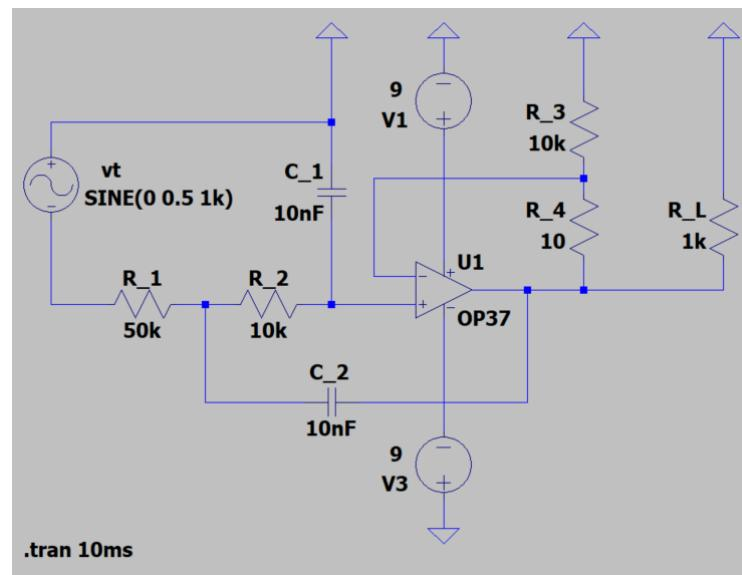

Figure 4: Layout of the Low-pass Sallen-Key circuit
- c. Under the New Schematic Page, Right click > Draft > Component. Build the circuit layout as shown in Fig. 4, Each component can be placed by searching each component: OP37(Opamps), Res(Resister), Cap(Capacitor), voltage(DC Voltage Source), Signal(AC Voltage Source). Ground can be added by right clicking the wire > Label Net > GND, and click "Ok" (attention: OP37's +IN and -IN are in the opposite position of those in Fig. 4).